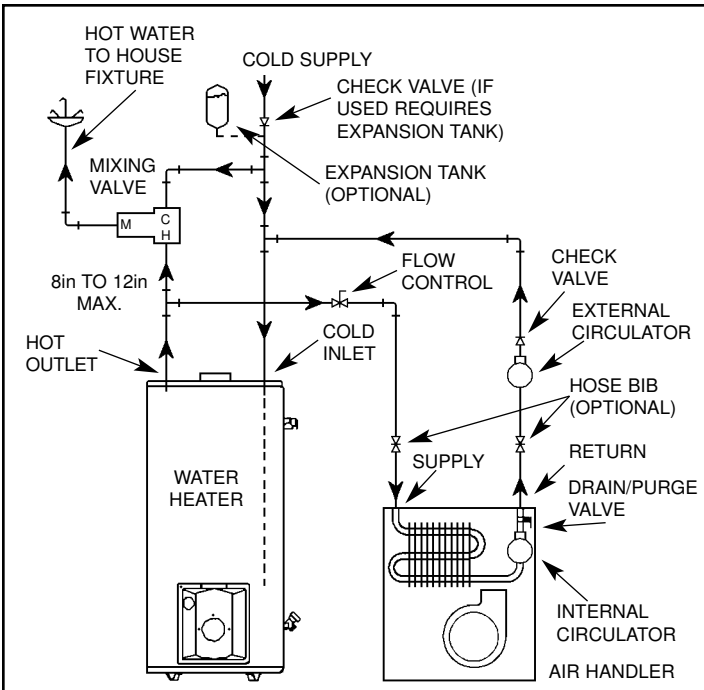

Figure 14 COMBO HEATING - AIR HANDLER
1. A fan coil/air handler (Figure 14).